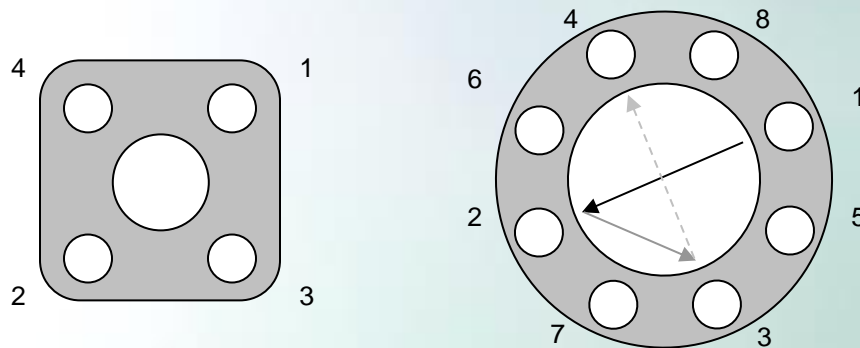

Figure 6: SRV Fastener Torqueing Sequences
- 3.5.** Check to ensure that the fastener threads are clean. As the fasteners are installed, they should be equally tightened in increments to ensure proper alignment and even gasket compression. The recommended increments are: hand tight; then one third of required torque; then two-thirds; then the complete torque. The fasteners should not be tightened in a circular, or rotational, pattern as this may distort the gasket and result in uneven sealing. A criss-cross, or star, pattern as shown in Figure 6 should be used. Once the fasteners are fully tightened, a circular pattern can be used to check the torques.